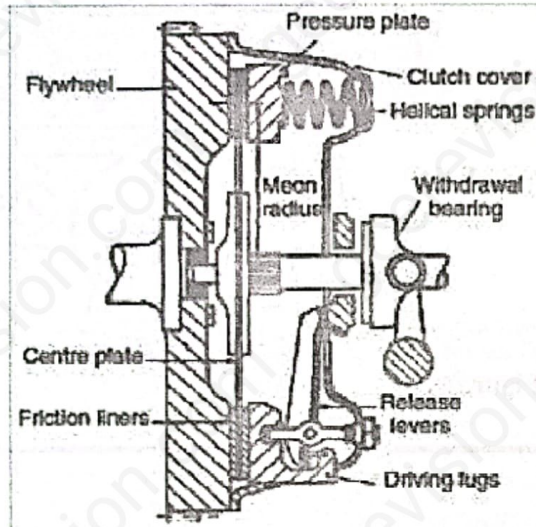

Figure 13.1
- i) Briefly explain how the clutch in figure 13.1 is disengaged and engaged. (3marks)
- v) For the practical clutch shown in figure 13.1 above,  $r_1 = 0.19$  m,  $r_2 = 0.14$  m, total torque transmitted ( $T$ ) = 186 Nm and the value of the axial effort ( $W$ ) exerted by the pressure plate on the clutch disc is 3400 N. Determine the value of the coefficient of friction  $\mu$  between the rubbing surfaces. (2marks)